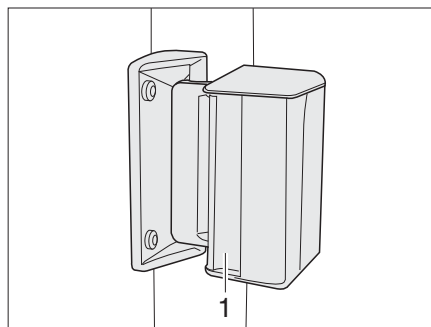

Fig. 15 Sliding window
- Press the handle (Fig. 15,1) and push or pull it forwards or backwards at the same time.